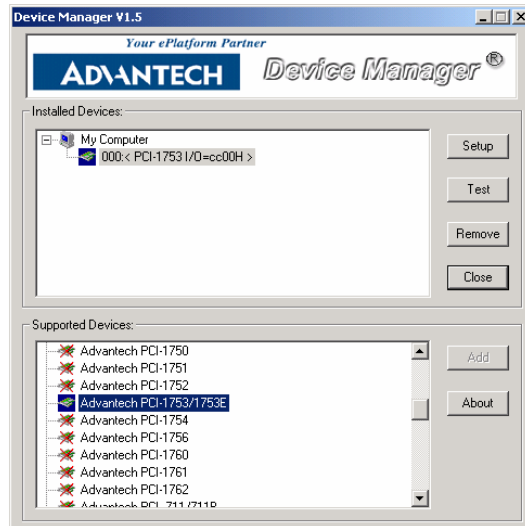

Figure 1: Advantec device manager
2. From the start menu, 'Programs – Advantec Device Driver – Advantec Device Manager'. Choose the correct driver 'Advantec PCI-1753/1753A'. Click *Add* and then *Close*. See Figure 1.